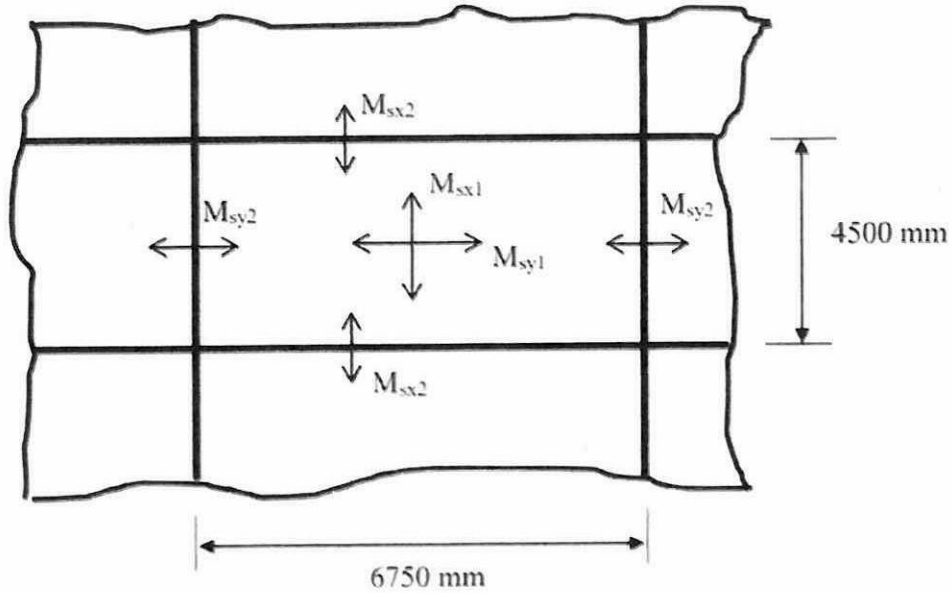

Figure Q3(b)
- (b) **Figure Q3(b)** shows an interior two-way slab with a thickness of 175 mm and nominal cover of 25 mm. The bending moments and shear forces as tabulated in **Table Q3(b)** were calculated using the design action,  $\eta_d$  of  $18.90 \text{ kN/m}$ . The characteristic strength of concrete and steel reinforcement are 25 MPa and 500 MPa, respectively. Based on the information given,